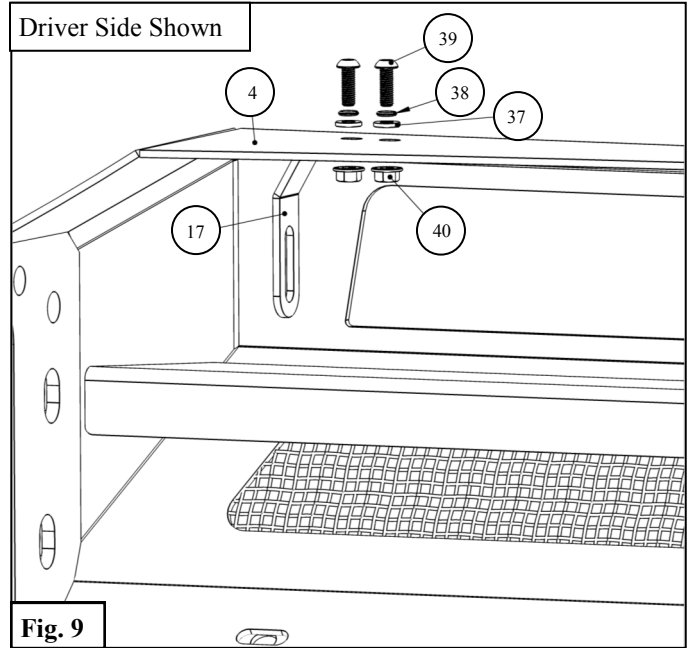

Fig. 9
- 9. Use the supplied M6 Hardware to attach the LED Brackets (17) to the center section. See Figure 9. *Note: If installing an LED Light Bar (sold separately), install it at this time.*